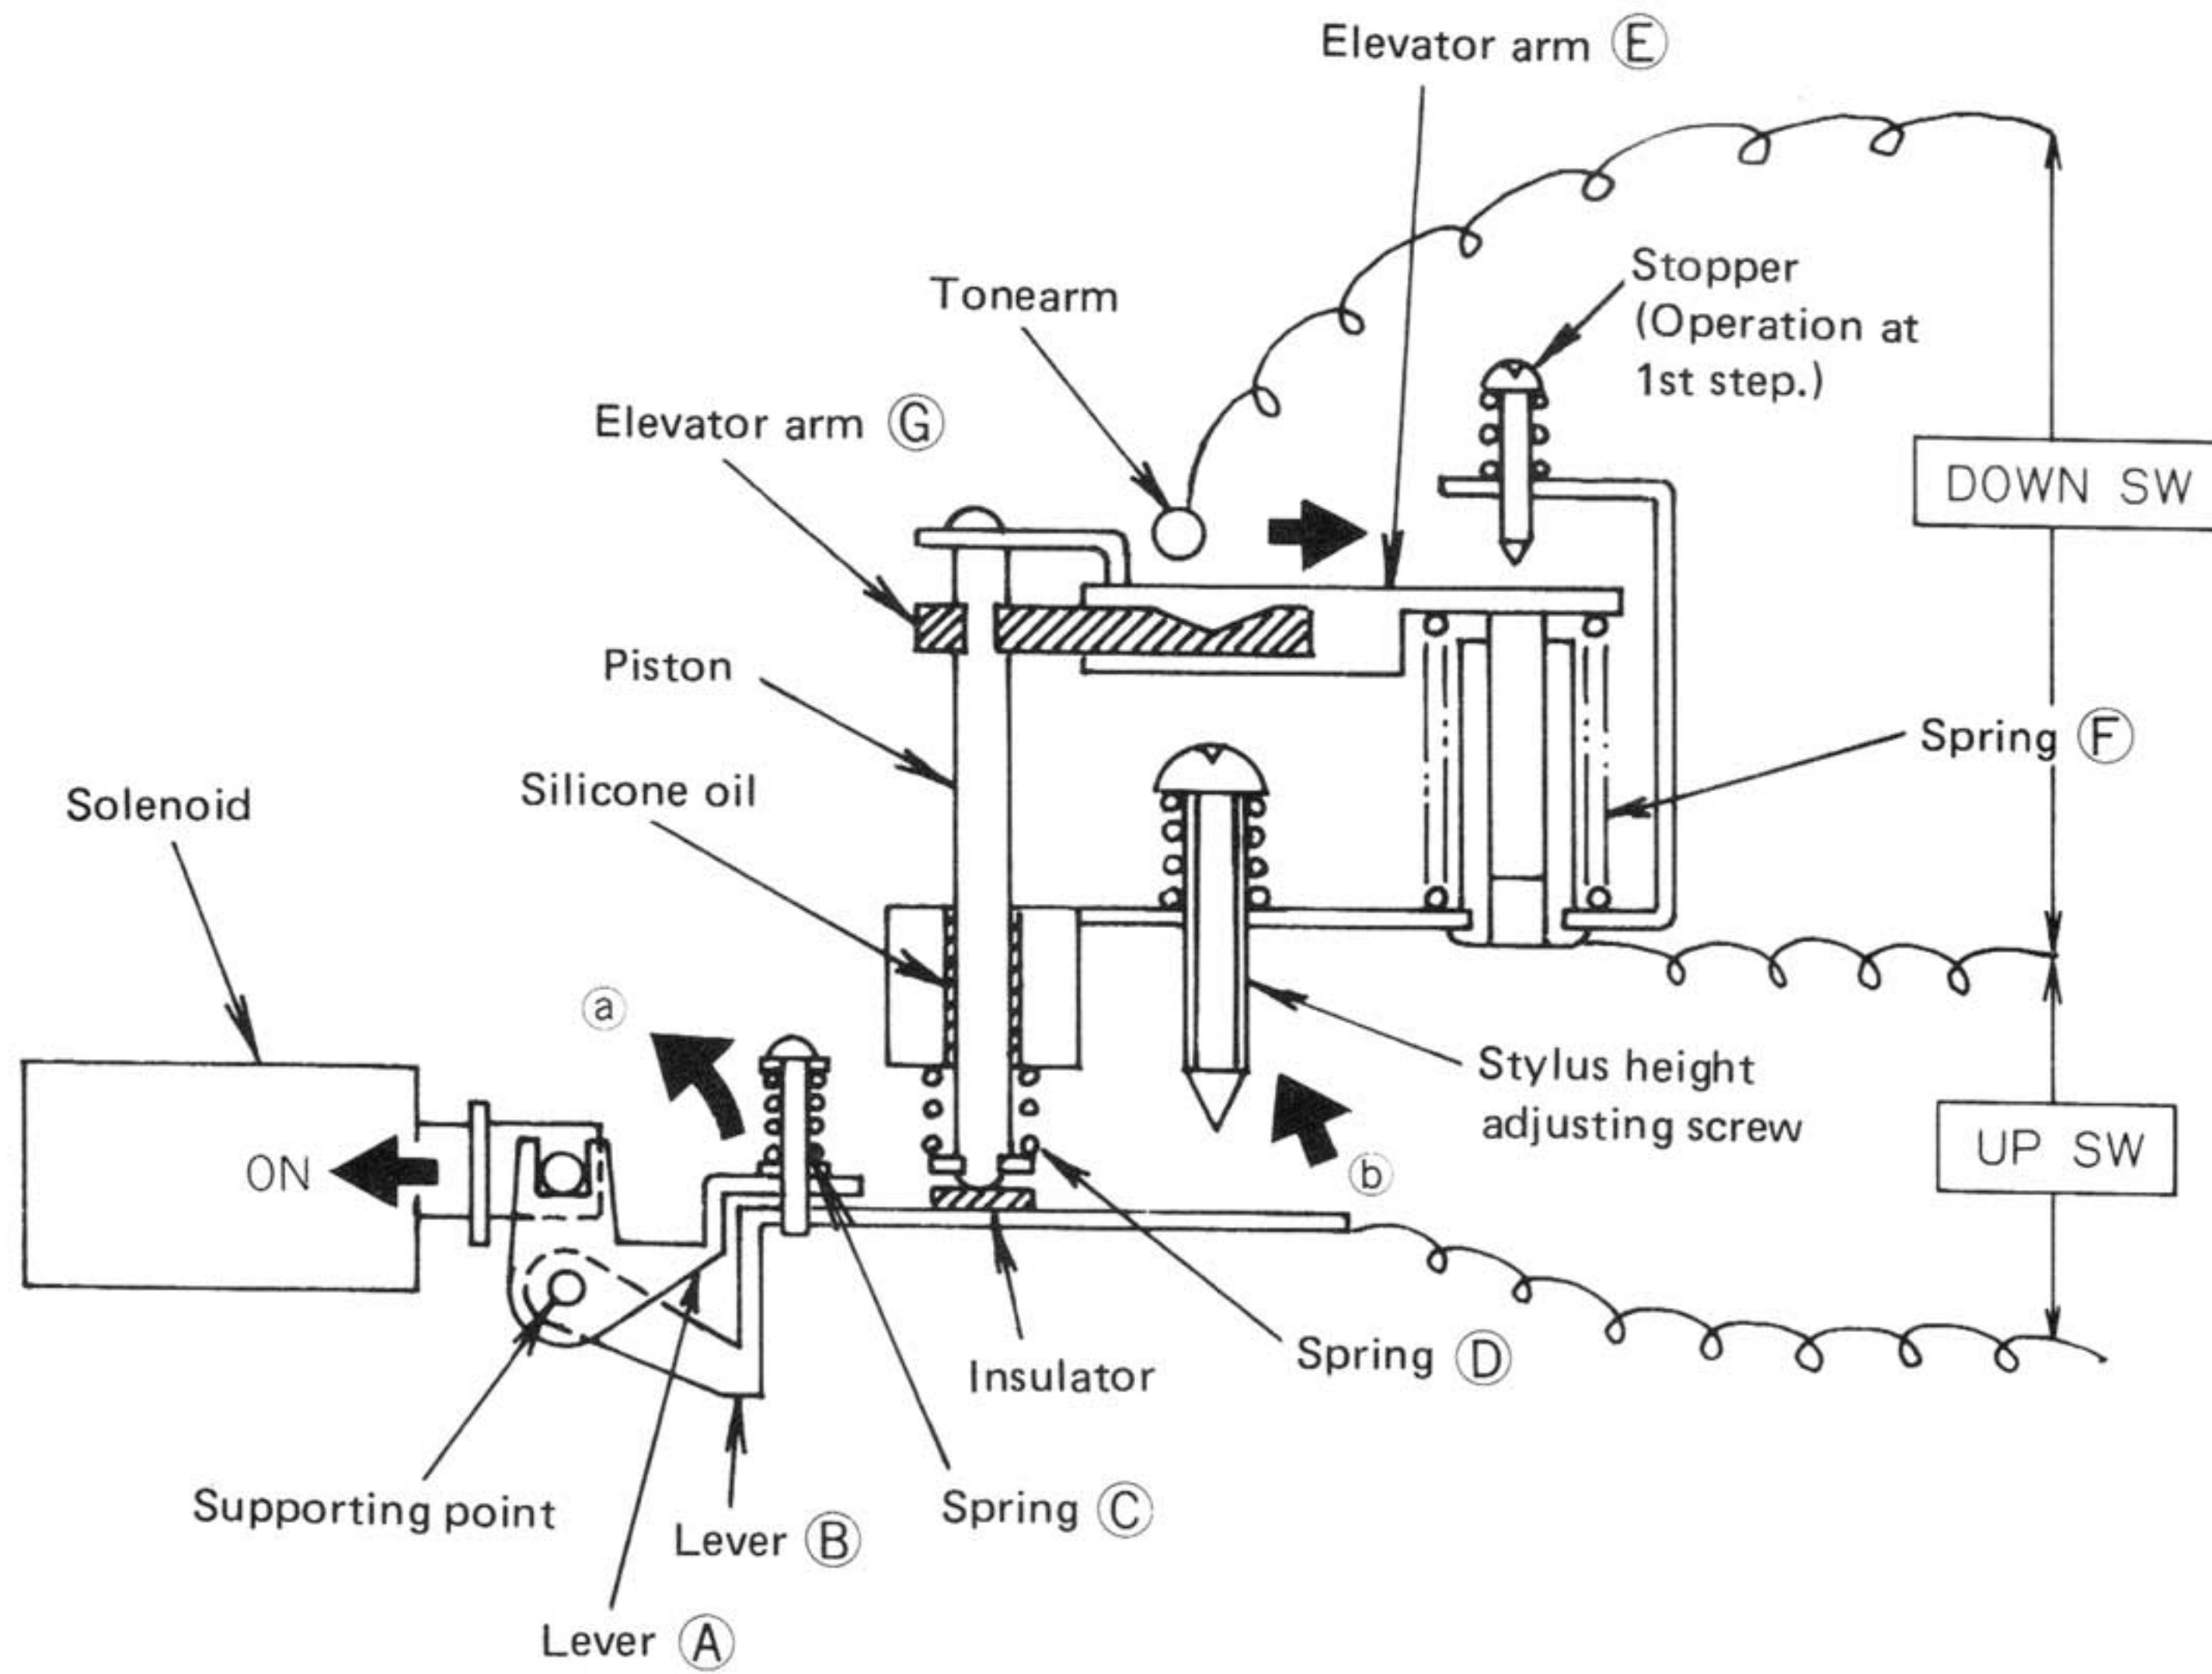

Fig. 3
### 4-(4) Operating Principle of Elevator (See Fig. 3)